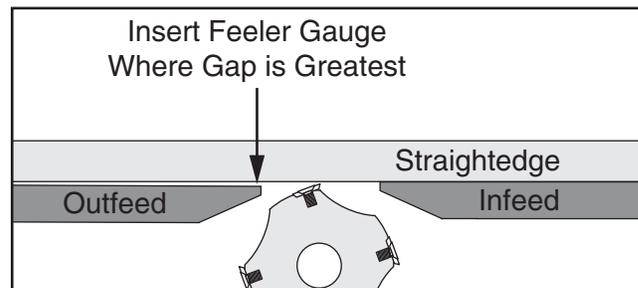

Figure 62. Example of feeler gauge location for checking table parallelism.
6. Insert feeler gauge between table and straightedge where gap is greatest (see **Figure 62**). Maximum allowable tolerance is 0.006".